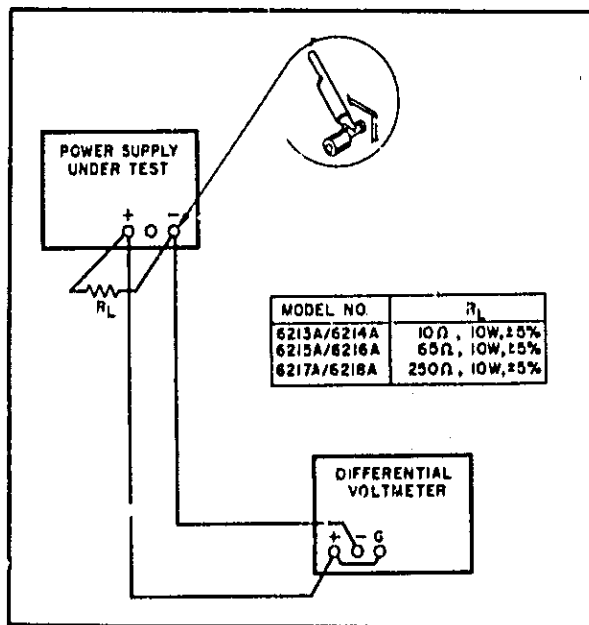

Figure 5-3. CV Load Regulation, Test Setup
- a. Connect load resistor (R_L), indicated in Figure 5-3, across the output terminals of supply.
- a. Connect test setup as shown in Figure 5-3.
- b. Connect test setup shown in Figure 5-3.
- Connect the load resistance, attenuator, and differential voltmeter as illustrated in Figure 5-3.